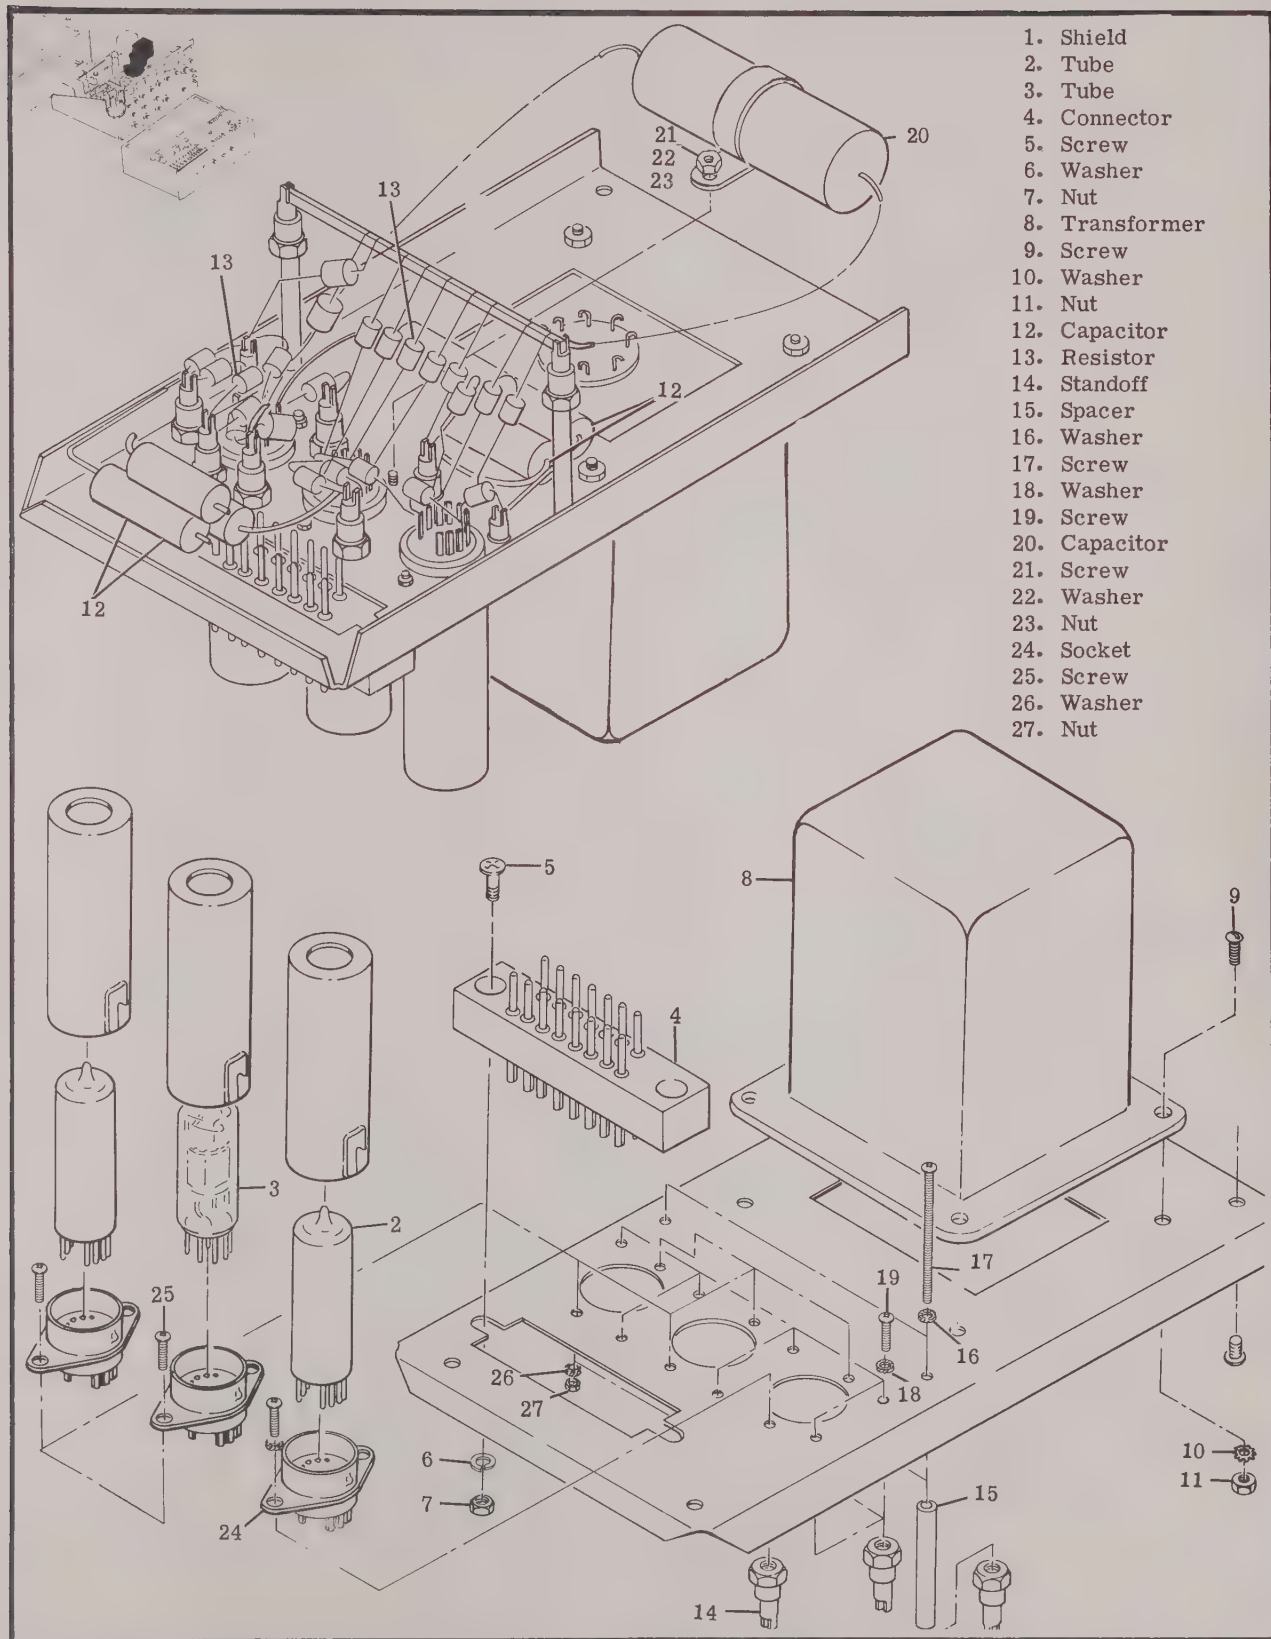

Figure 4-8. Unknown Amplifier
a. Remove electron tube shield (1, figure 4-8) and electron tubes (2 and 3).
b. Remove connector (4) by removing screw (5), washer (6) and nut (7).
c. Remove transformer (8) by removing screw (9), washer (10) and nut (11).
d. Remove capacitors (12) and resistors (13) by soldering leads.
e. Remove standoffs (14), spacer (15), washer (16 and 18) and screw (17 and 19).
f. Remove capacitor (20) by removing screw (21), washer (22) and nut (23).
g. Remove tube sockets (24) by removing screw (25), washer (26) and nut (27).